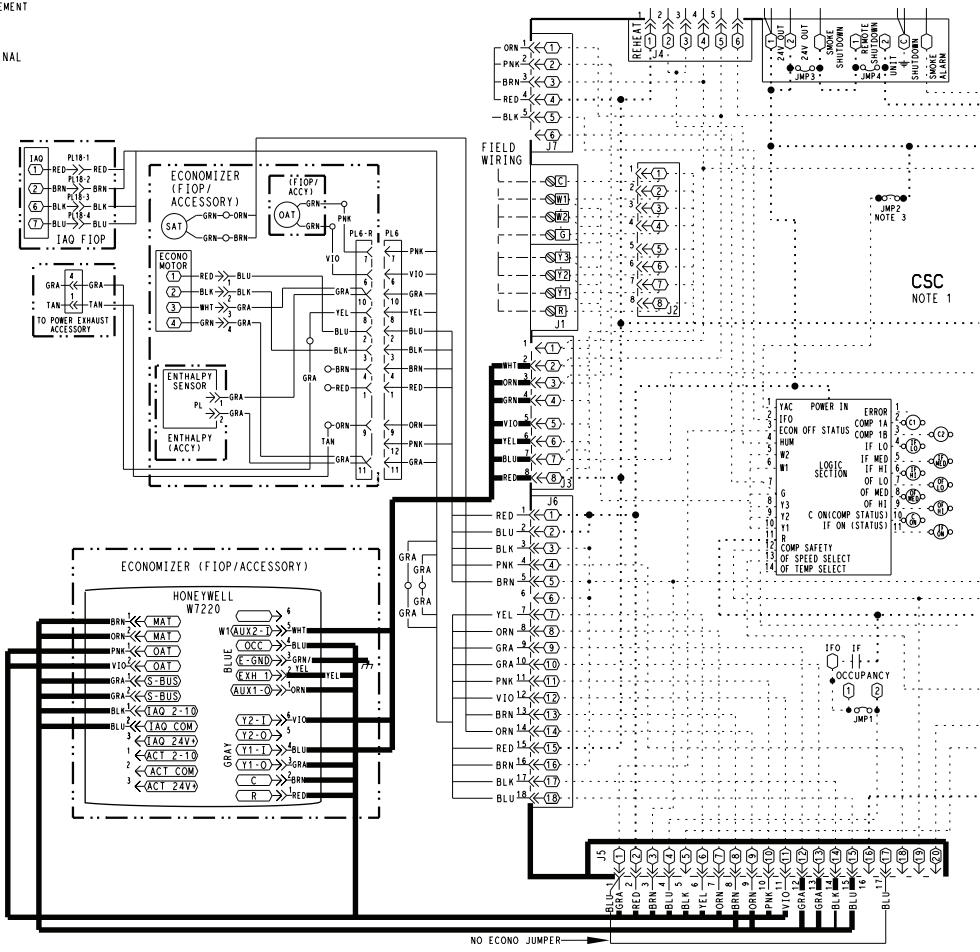

Fig. 8B - Typical EconMi\$er X Wiring Diagram For 3 Speed Units (48/50LC 07-12)
- For 3 speed (48/50LC 07-12) units, the harness attached to the W7220 econoMi\$er X controller must be removed, and can be discarded. Locate harness 48LCHSRADH--A00 shipped in plastic bag in the control box of unit. Attach this harness to the W7220 controller as shown in Fig 8B and 8C.